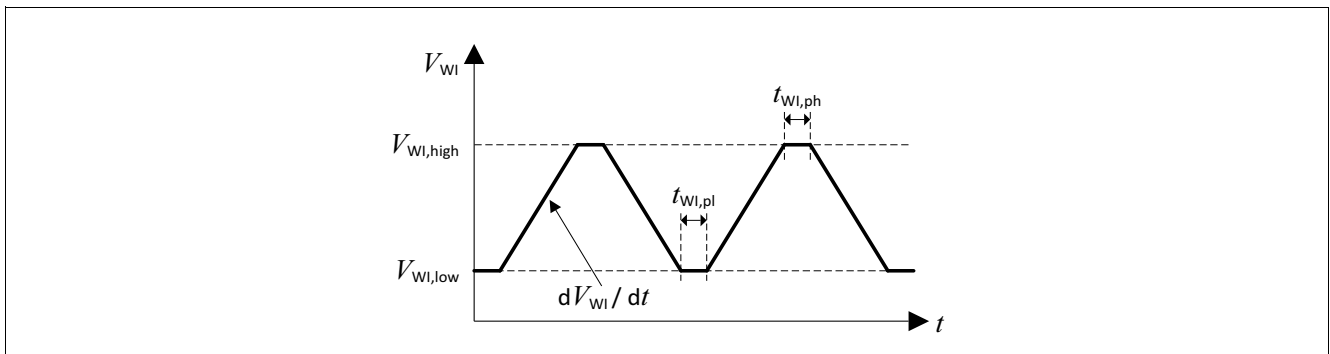

Figure 10 Test Pulses Watchdog Input WI
The watchdog is triggered by a falling edge at the watchdog input pin “WI”. The amplitude and slope of this signal has to comply with the specification (Table “Watchdog Input WI” on Page 27). For details regarding test pulses, see Figure 10 “Test Pulses Watchdog Input WI” on Page 26.
- 1) For details on applied test pulse, see Figure 10